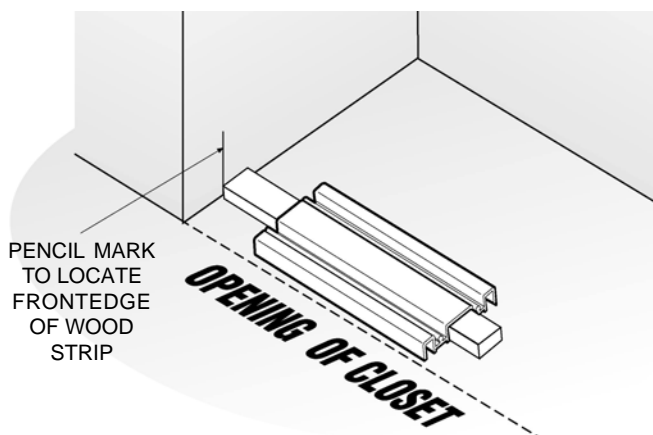

Figure 3
- Place front of Wood Strip (#4) up to pencil mark on wall (See Figure 3). Do this on both sides. Now attach Wood Strip (#4) according to your Offset Measuring Table.